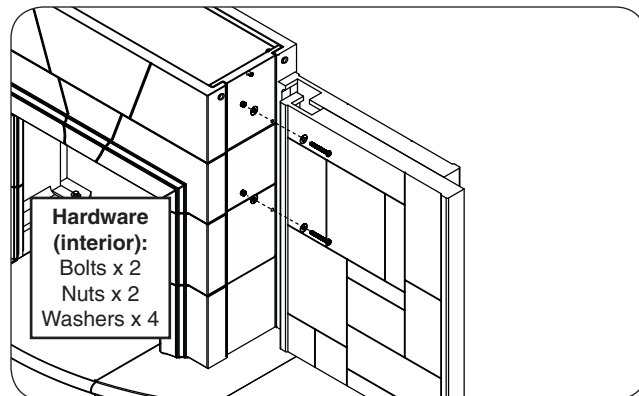

Fig. 20-2 Assemble front side-wall (skip if n/a)
3. Place the front side-wall piece beside the fireplace body as shown. Carefully align the pilot holes, and repeat the hardware installation process (interior hardware kits). See Fig. 20-2.